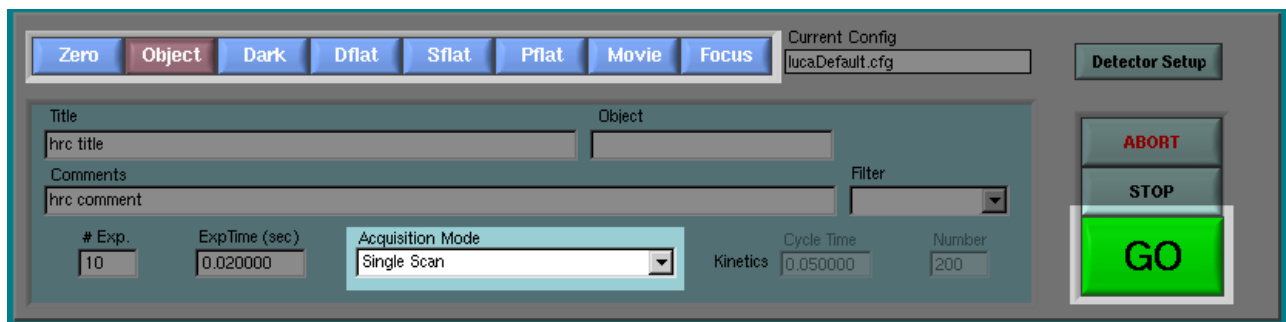

Figure 3: Use the radio buttons to select the type of exposure. Controls will be enabled/disabled depending on the selected mode.
2. Select the **SNAPSHOT** type of exposure using the radio buttons in the exposure controls pane (Figure 3)